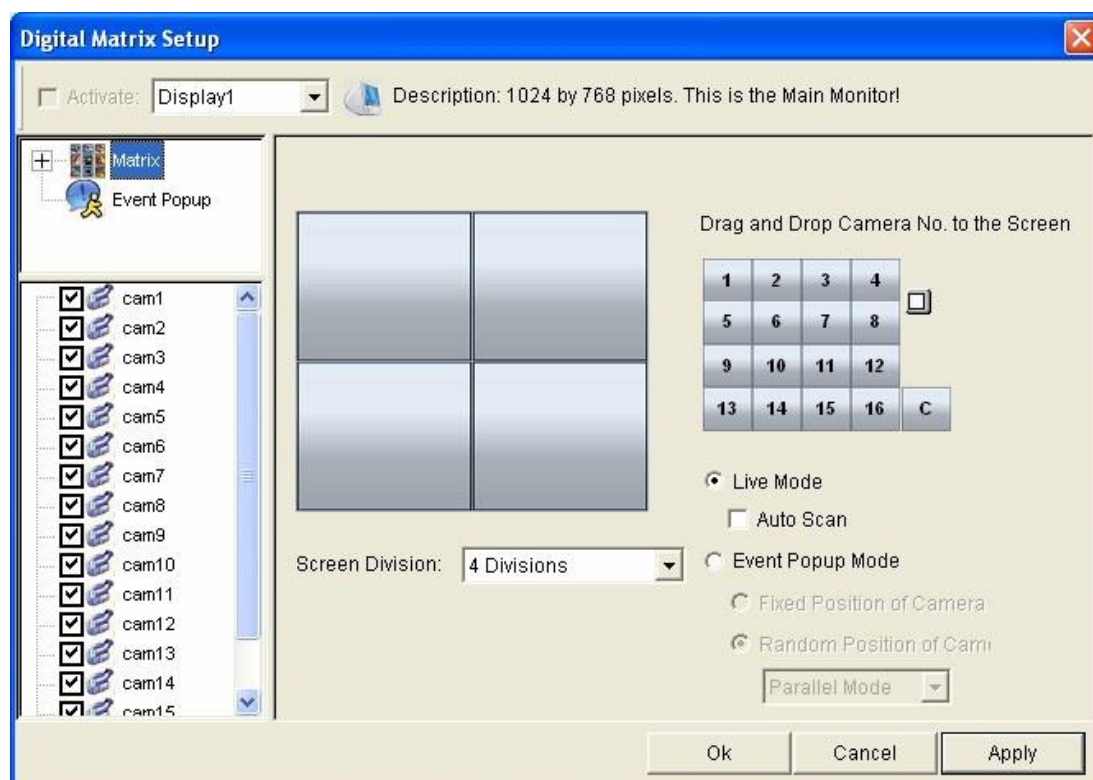

Figure 11-89
9. In the upper-left column, click the **Matrix** icon and return to Figure 11-89.
- ⑩ **Motion Trigger:** The live video of selected cameras pops up when motion is detected.
- ⑩ **I/O Trigger:** The live video of assigned camera pops up when the selected input device is triggered.
- ⑩ **Popup Dwell Time:** Specify the amount of time that a pop-up live video remains in the foreground.
- ⑩ **Popup Interruption Interval:** Specify the interval between camera pop-ups. This option is useful when several cameras are activated for pop-up alert at the same time.
4. After above settings, click the **Matrix** icon and return to Figure 11-89.
4. Click the **Matrix** icon and return to Figure 11-89. Ensure the **Live Mode** option is selected.